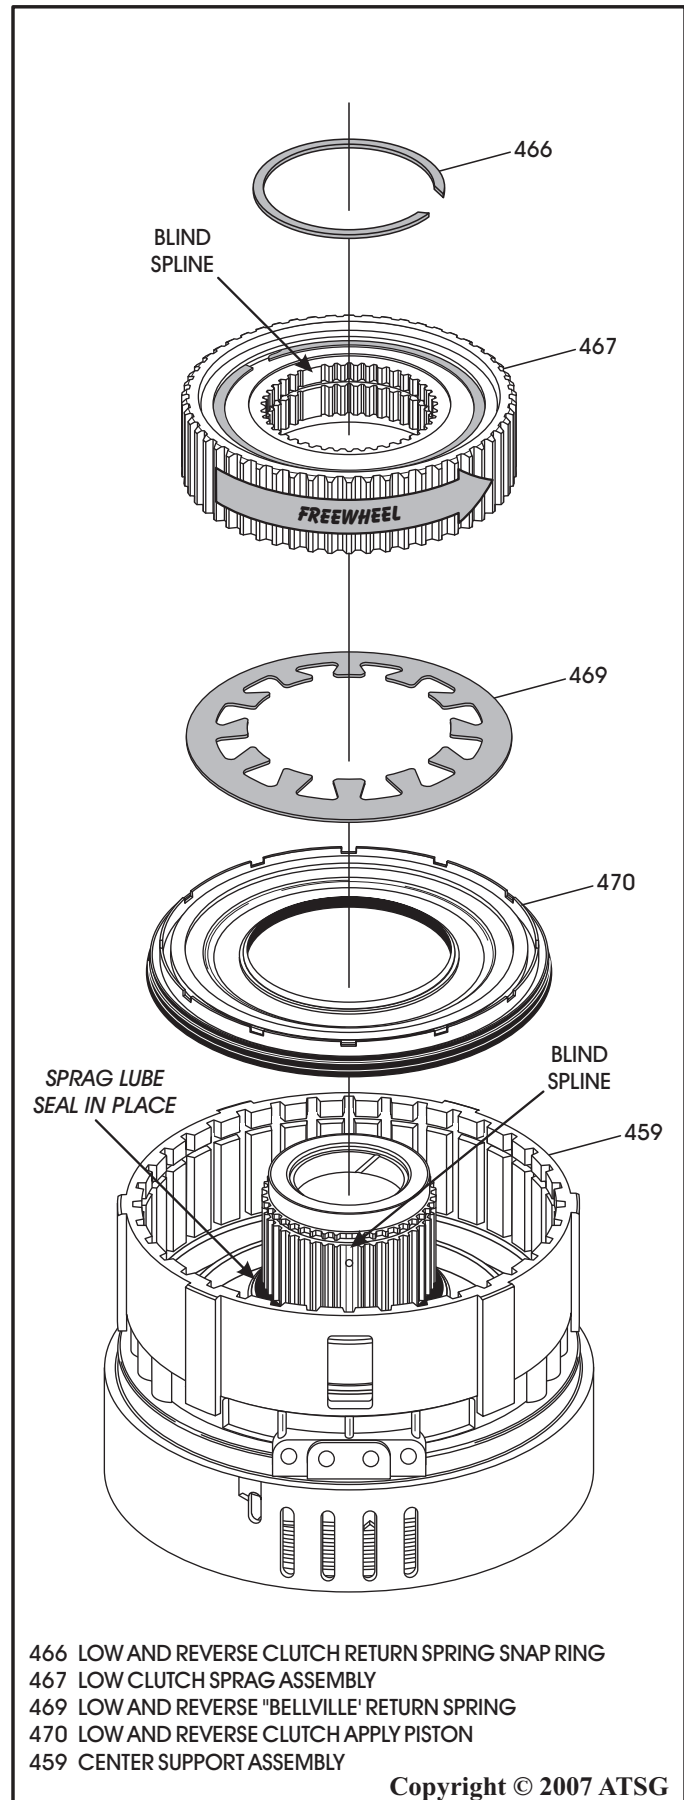

Figure 112
17. Lubricate the seals on a new low/reverse clutch molded piston and install into center support, as shown in Figure 112.
18. Check for proper sprag rotation, as shown in Figure 112. Low sprag should freewheel in counter-clockwise direction while holding the inner race and lock in clockwise direction.
19. Install the low sprag assembly onto the hub of the center support, as shown in Figure 112.